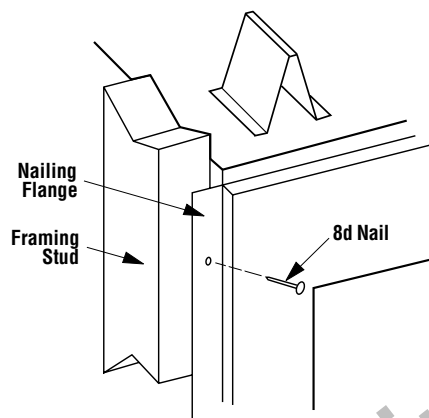

Figure 18
Step 5. The fireplace should be secured to the side framing members through the nailing flange (*Figure 18*).